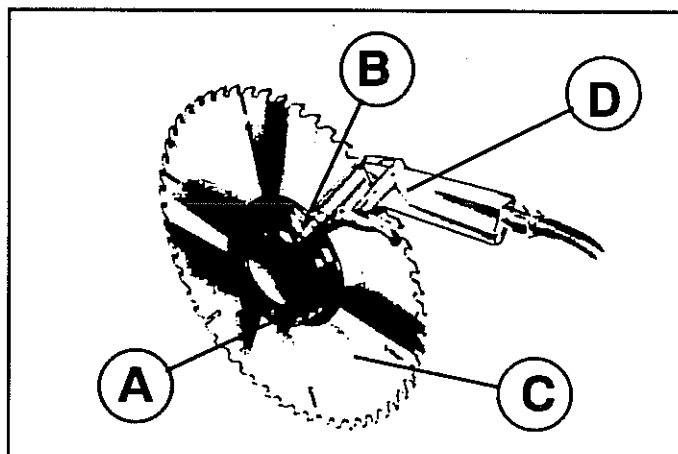

Fig.3.9
For the correct blade locking hold flange (A fig.3.9) standstill so that the air inlet hole (B fig.3.9) is turned to the top, then turn saw (C) anticlockwise in order to have a light rub against flange (A),. Now insert nozzle of gun (D) into hole (B) to blow air.